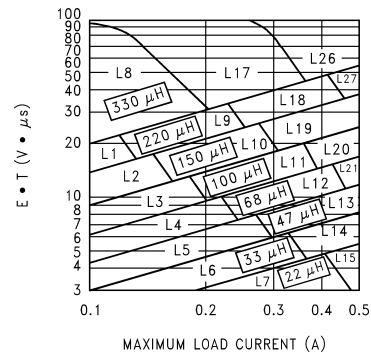

Figure 24. LM2594/LM2594HV-ADJ
<p>2. Output Capacitor Selection (C_{OUT})</p> <p>A. In the majority of applications, low ESR (Equivalent Series Resistance) electrolytic capacitors between 82 μF and 220 μF and low ESR solid tantalum capacitors between 15 μF and 100 μF provide the best results. This capacitor should be located close to the IC using short capacitor leads and short copper traces. Do not use capacitors larger than 220 μF.</p> <p>For additional information, see OUTPUT CAPACITOR section in Application Information section.</p> <p>B. To simplify the capacitor selection procedure, refer to the quick design component selection table shown in Figure 24. This table contains different input voltages, output voltages, and load currents, and lists various inductors and output capacitors that will provide the best design solutions.</p> <p>C. The capacitor voltage rating for electrolytic capacitors should be at least 1.5 times greater than the output voltage, and often much higher voltage ratings are needed to satisfy the low ESR requirements for low output ripple voltage.</p> <p>D. For computer aided design software, see Switchers Made Simple™ version 4.1 or later.</p>	<p>2. Output Capacitor Selection (C_{OUT})</p> <p>A. See OUTPUT CAPACITOR section in Application Information section.</p> <p>B. From the quick design component selection table shown in Figure 24, locate the 5V output voltage section. In the load current column, choose the load current line that is closest to the current needed in your application, for this example, use the 0.5A line. In the maximum input voltage column, select the line that covers the input voltage needed in your application, in this example, use the 15V line. Continuing on this line are recommended inductors and capacitors that will provide the best overall performance.</p> <p>The capacitor list contains both through hole electrolytic and surface mount tantalum capacitors from four different capacitor manufacturers. It is recommended that both the manufacturers and the manufacturer's series that are listed in the table be used.</p> <p>In this example aluminum electrolytic capacitors from several different manufacturers are available with the range of ESR numbers needed.</p> <p style="padding-left: 40px;">120 μF 25V Panasonic HFQ Series 120 μF 25V Nichicon PL Series</p> <p>C. For a 5V output, a capacitor voltage rating at least 7.5V or more is needed. But, in this example, even a low ESR, switching grade, 120 μF 10V aluminum electrolytic capacitor would exhibit approximately 400 mΩ of ESR (see the curve in Figure 26 for the ESR vs voltage rating). This amount of ESR would result in relatively high output ripple voltage. To reduce the ripple to 1% of the output voltage, or less, a capacitor with a higher voltage rating (lower ESR) should be selected. A 16V or 25V capacitor will reduce the ripple voltage by approximately half.</p>
<p>2. Inductor Selection (L1)</p> <p>A. Calculate the inductor Volt microsecond constant $E \cdot T$ ($V \cdot \mu s$), from the following formula:</p> $E \cdot T = (V_{IN} - V_{OUT} - V_{SAT}) \cdot \frac{V_{OUT} + V_D}{V_{IN} - V_{SAT} + V_D} \cdot \frac{1000}{150 \text{ kHz}} (V \cdot \mu s) \quad (4)$ <p>where V_{SAT} = internal switch saturation voltage = 0.9V and V_D = diode forward voltage drop = 0.5V</p> <p>B. Use the $E \cdot T$ value from the previous formula and match it with the $E \cdot T$ number on the vertical axis of the Inductor Value Selection Guide shown in Figure 24.</p> <p>C. on the horizontal axis, select the maximum load current.</p> <p>D. Identify the inductance region intersected by the $E \cdot T$ value and the Maximum Load Current value. Each region is identified by an inductance value and an inductor code (LXX).</p> <p>E. Select an appropriate inductor from the four manufacturer's part numbers listed in Table 5.</p>	<p>2. Inductor Selection (L1)</p> <p>A. Calculate the inductor Volt \cdot microsecond constant ($E \cdot T$),</p> $E \cdot T = (28 - 20 - 0.9) \cdot \frac{20 + 0.5}{28 - 0.9 + 0.5} \cdot \frac{1000}{150} (V \cdot \mu s)$ $E \cdot T = (7.1) \cdot \frac{20.5}{27.6} \cdot 6.67 (V \cdot \mu s) = 35.2 (V \cdot \mu s) \quad (5)$ <p>B. $E \cdot T = 35.2 (V \cdot \mu s)$</p> <p>C. $I_{LOAD(max)} = 0.5A$</p> <p>D. From the inductor value selection guide shown in Figure 24, the inductance region intersected by the 35 ($V \cdot \mu s$) horizontal line and the 0.5A vertical line is 150 μH, and the inductor code is L19.</p> <p>E. From Table 5, locate line L19, and select an inductor part number from the list of manufacturers part numbers.</p>